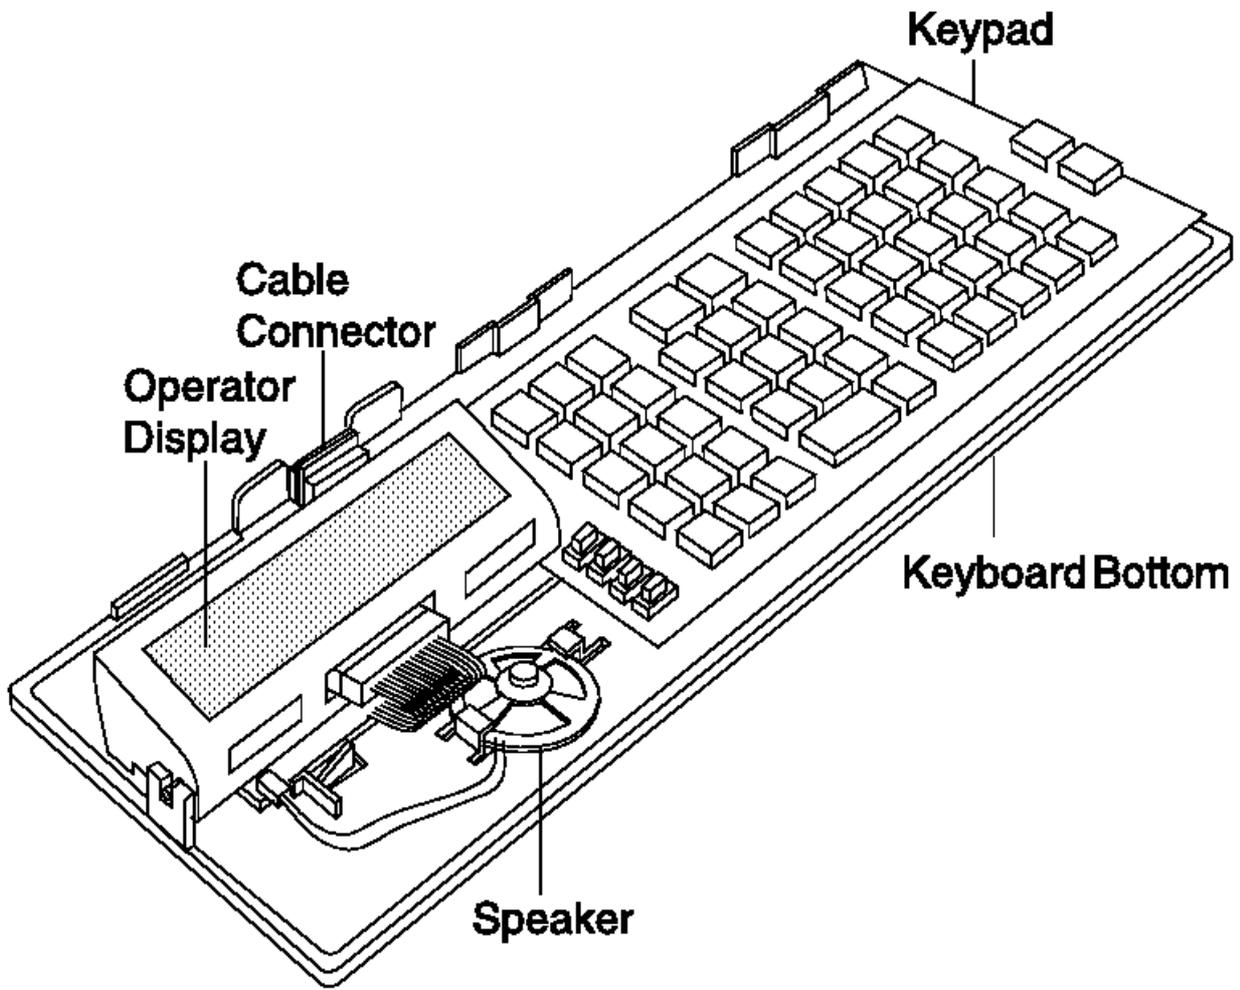

Figure 4-11. Removing the Display
3. Disconnect the cable from the display. See Figure 4-11 in topic 4.3.5.8.